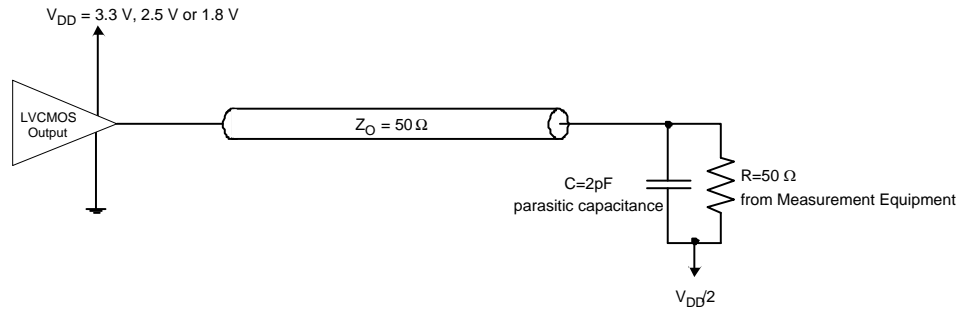

Figure 2. Test Load Circuit
5. All typical values are at respective nominal VDD. For switching characteristics, outputs are terminated to 50 Ω to VDD/2 (see Figure 2).